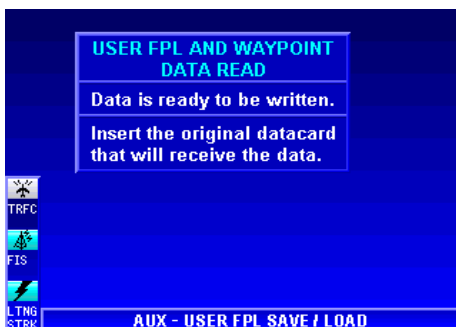

Figure 1-185
7. When Figure 1-185 is displayed re-insert the new datacard.